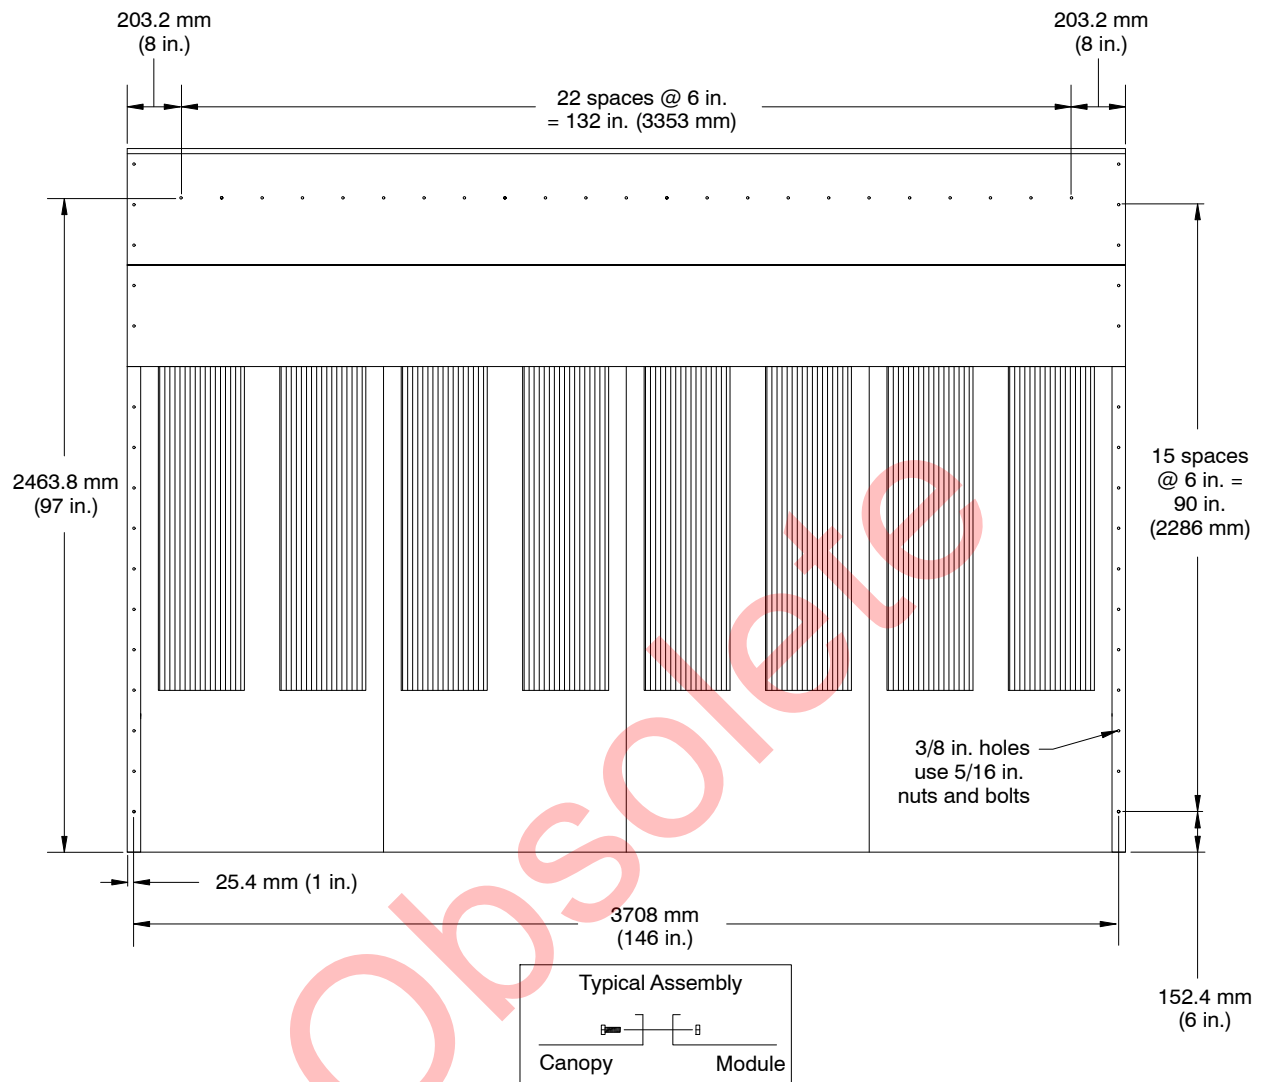

Figure 5 10,000 and 12,000 CFM Module to Canopy Mounting Dimensions
9. Attach canopy panels to the collector. Refer to Figures 5, 6, and 7 for canopy mounting hole patterns.
Refer to Figures 5, 6, and 7 for collector module to canopy mounting dimensions.